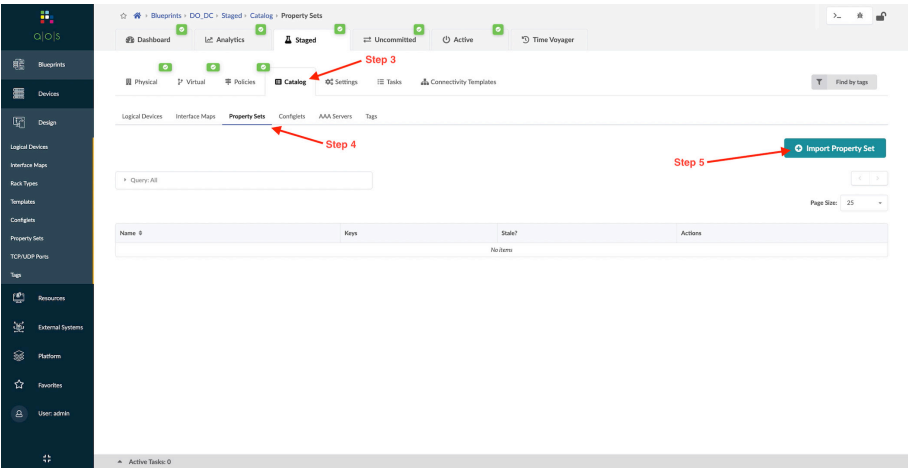

Figure 7.21 Importing a Property Set
Step 3: Go to Staged > Catalog. See Figure 7.21.